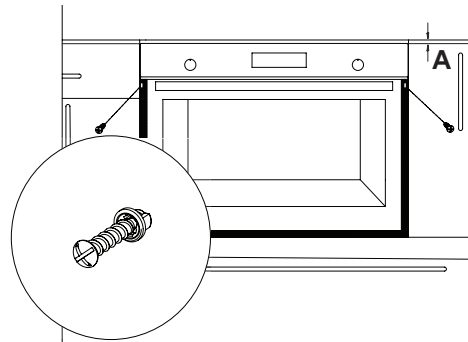

Figure 3
- Fix the oven to the furniture by using the screws provided with the product. Screws must be mounted as shown in Figure 3 by passing them through plastics attached to frame of the product. Screws must not be overtightened. Otherwise, screw sockets might be worn.
- After mounting, the clearance between lower and upper part of the counter is indicated in Figure 3 with "A". It's for ventilation and shouldn't be covered.